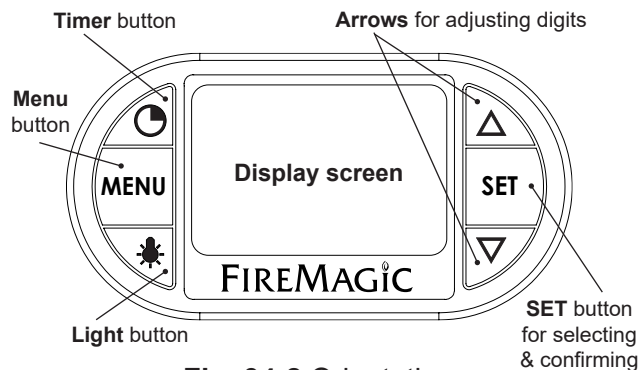

Fig. 34-2 Orientation
Read the following sections completely regarding thermometer operation. Refer to Fig. 34-2 for thermometer orientation and button locations.
1. Press the light button to turn both the interior oven lights and knob backlights ON (see Fig. 34-2). The interior oven lights will temporarily shut off when the hood is closed (except for Magic View models).